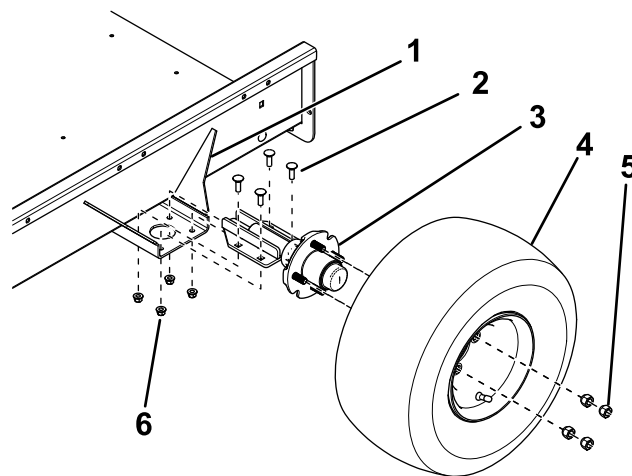

Figure 2
2. Using the 4 carriage bolts and 4 locknuts, mount an axle to the top side of the mounting brackets on each side of the trailer bed as shown in Figure 2.
3. Mount a wheel assembly to each axle hub with 4 lug nuts (Figure 2) and tighten the nuts to 80 ft-lb (108.5 N·m).
- Adjust the position of the axle mounting brackets so that the front center-to-center distance is about 3 mm (1/8 inch) less than the rear center-to-center distance (Figure 2).